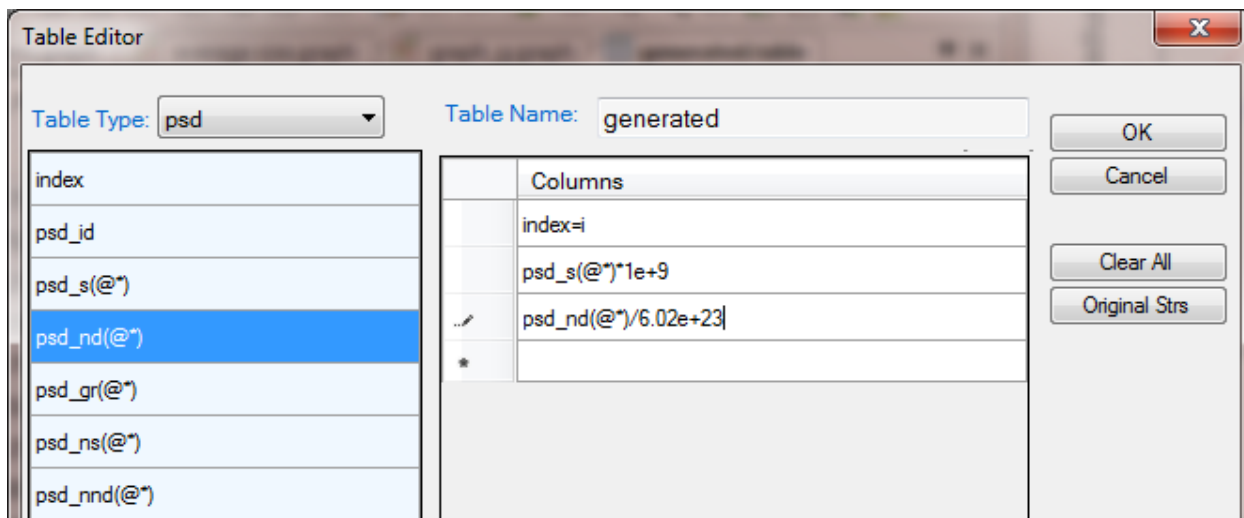

Figure 3.3.6: Create a new table with particle sizes and number densities at final stage
- Add a new table as shown in Figure 3.3.6 with the Table Type as psd. The Columns are particle sizes and number densities with (@*) means all precipitate phases. The default calculated size is in meter, which is converted to nm by multiplying the column by $1e+9$. The default calculated number density is number/ m^3 , which is converted to mol/ m^3 . The index=i means to populate the size and number density at the final state $t=10h$;